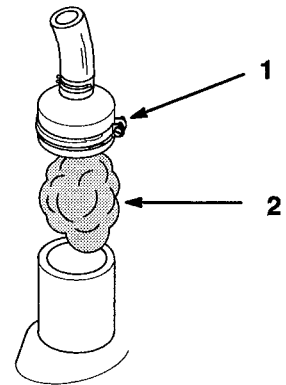

Figure 24
4. Open breather clamp and remove screen and element (Fig. 24).
6. Install element and screen and secure breather with clamp (Fig. 24).